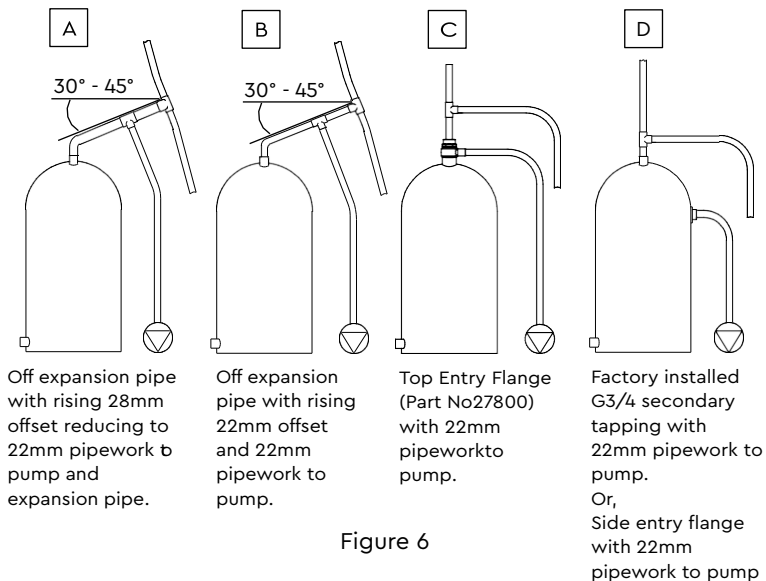

Figure 6
**Hot water supply:** The pump **must be** supplied with a **dedicated feed** direct from the hot water cylinder or storage tank, ensuring an air free connection to the pump. We recommend the use of either the side entry flange or a top entry flange (Part No 27800) see Figure 6.